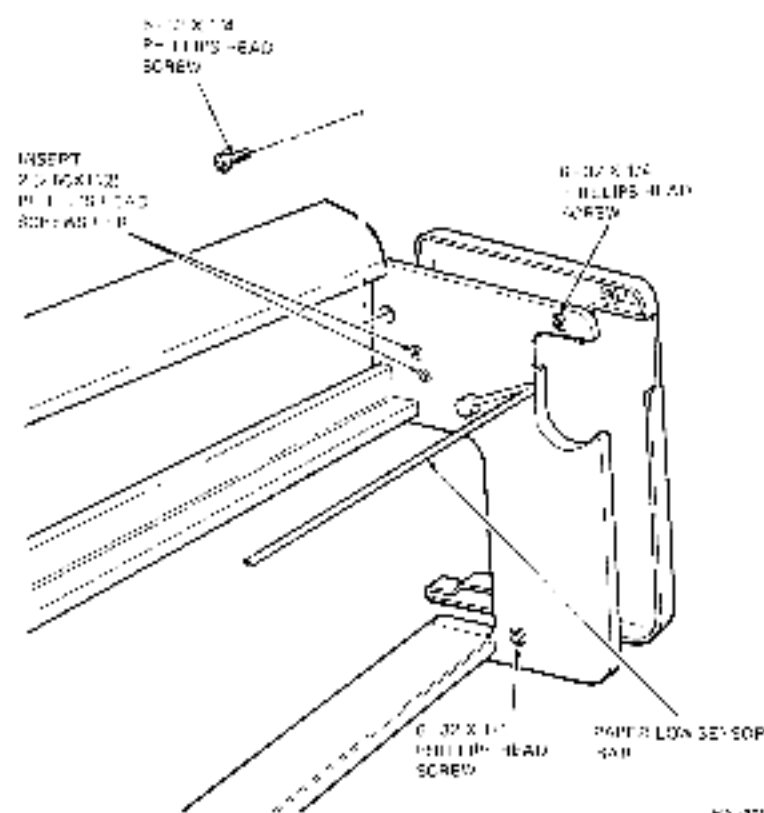
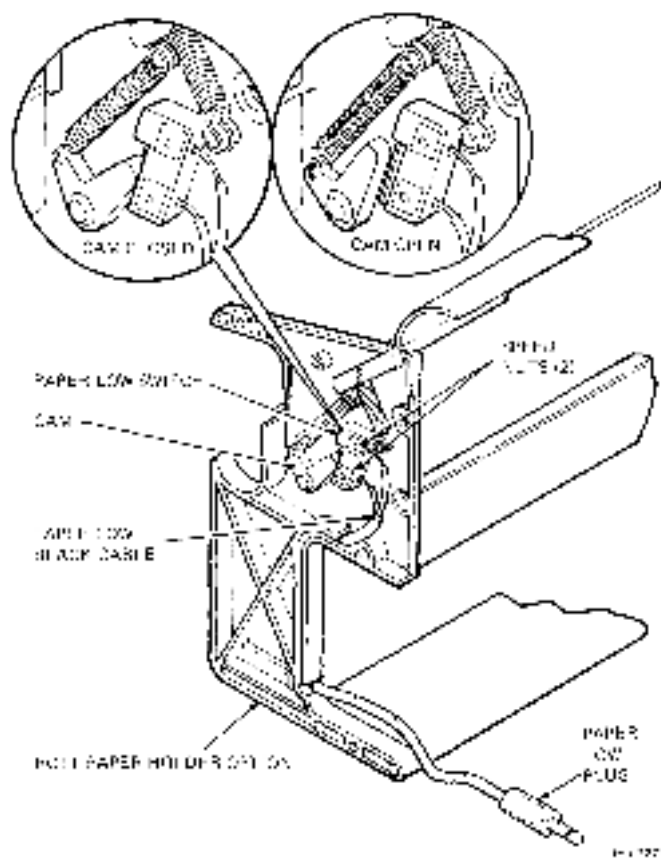

Figure 3-15 Roll Paper Holder Cover Cap
Figure 3-16 Paper Low Switch Installation
19. Using a Number 1 phillips screwdriver, remove the three (6-32 $\times$ 1/4) phillips screws that secure the right roll paper cover cap (as viewed from the back) to the roll paper holder, and set the cap aside (Figure 3-15).
20. Insert the two (2-56 $\times$ 1/2) flathead phillips screws through the inner side of roll paper holder (Figure 3-15).
21. Press down on the paper low sensor bar (Figure 3-15) to open cam (Figure 3-16).
23. Secure the paper low switch using two speed nuts (Figure 3-16).
24. Route the paper low rack cable through the paper holder assembly (Figure 3-16).